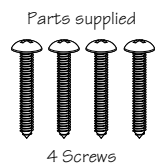

Figure 7B
5. Secure the drawer with the 4 screws supplied. See Figure 7B.